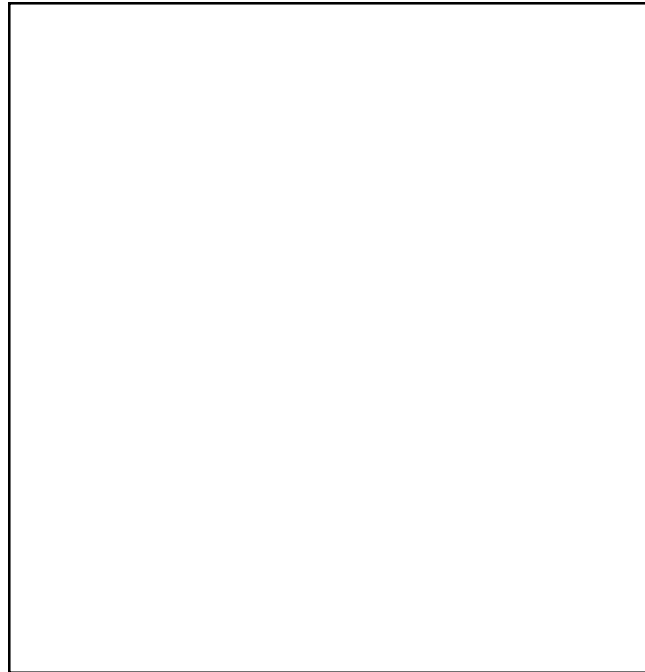

Figure 7-2. Sail method of manhole ventilation
(2) *Sail method.* The said method (figure 7-2), ventilates the manhole by using the wind. A piece of plywood or some other material is placed over the manhole. The edge of the plywood facing the wind is lifted up until the plywood forms about a 45 degree angle with the manhole opening. The wind enters the manhole, forcing possible contaminated air out of the manhole.